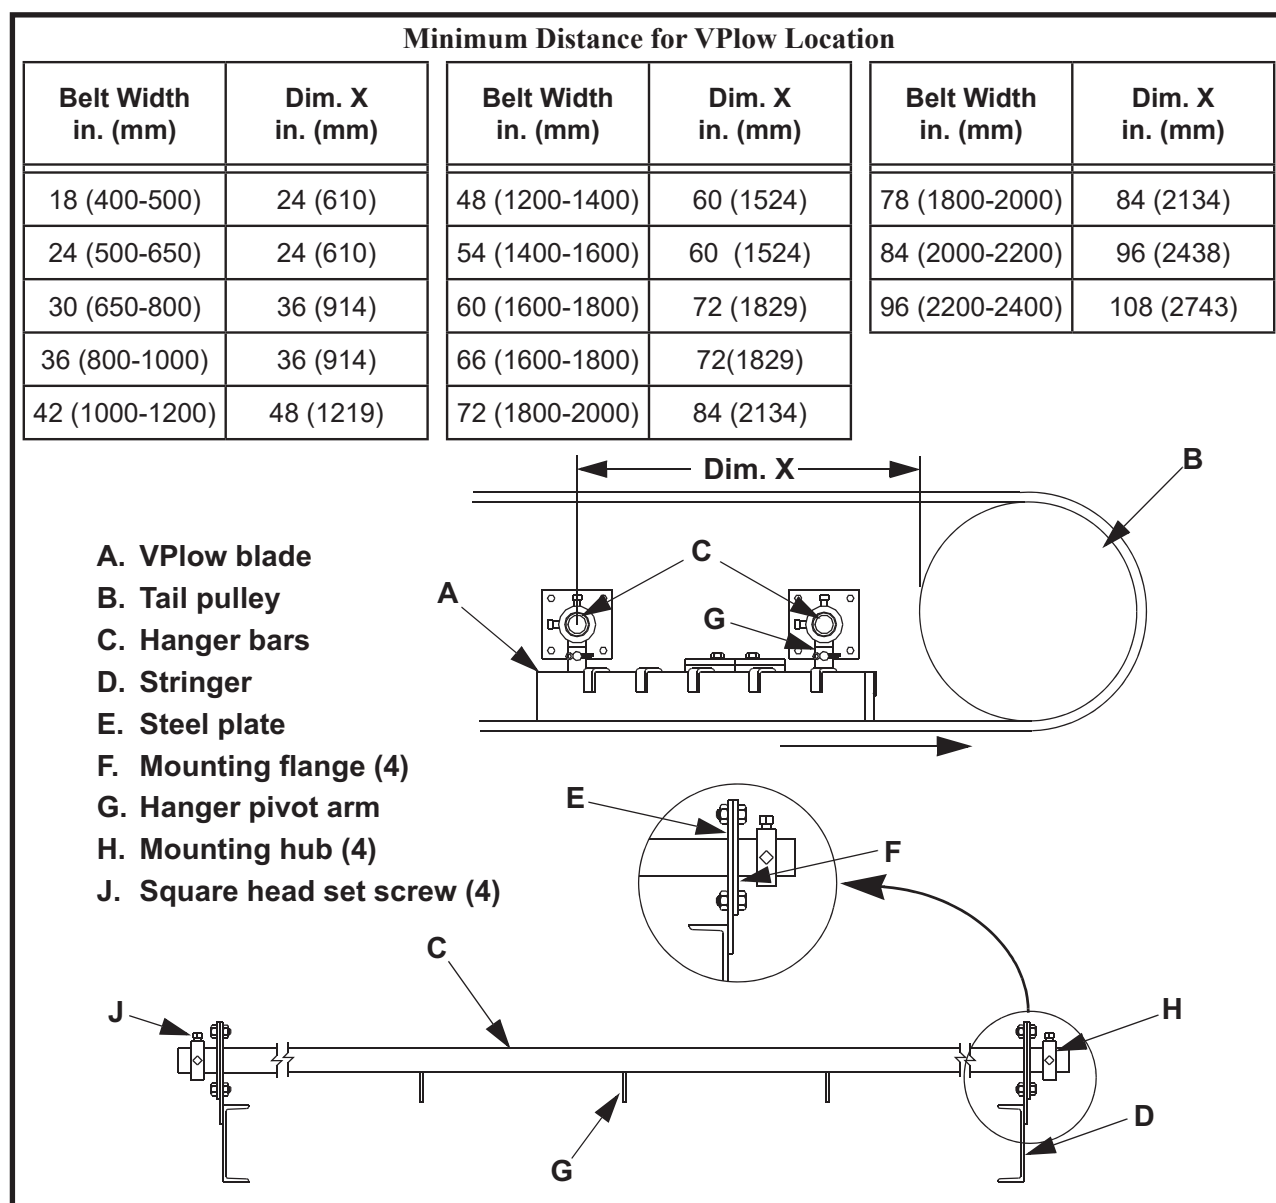
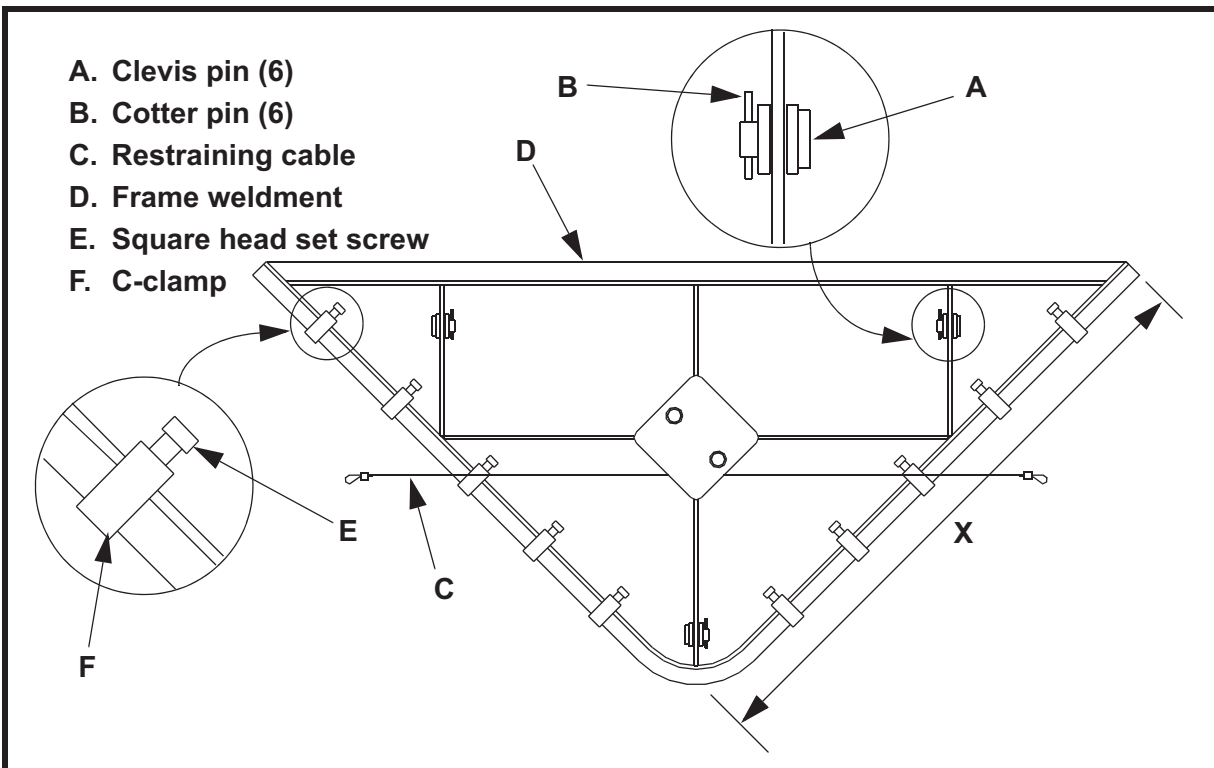

Figure 1. Locating Martin® VPlow HD on belt
Figure 4. Installing Martin® VPlow HD
Position vplow blade according to chart in Figure 1. Minimum distance is to ensure safety cables will keep vplow from damaging tail pulley or conveyor belt if mount brackets fail.
1. Place the Martin® VPlow HD blade (A, Figure 1) on the return side of the belt before the tail pulley (B), with the “V” pointing away from the tail pulley. Position according to chart in Figure 1.
6. Insert the hanger bars (C, Figure 1) through the mounting holes. Attach each hanger pivot arm (G) to the hanger bar with a clevis pin (A, Figure 4) and cotter pin (B).
7. Center the blade on the belt. Slide a mounting hub (H, Figure 1) onto both ends of each hanger bar, and up against the mounting flanges. Tighten the two set screws (J) in each mounting hub.
8. Attach a restraining cable (C, Figure 4) to the conveyor stringers far enough from the tail pulley. Make sure vplow is located according to chart in Figure 1. Leave no more than 2 in. (51 mm) of slack in cable.
3. Check the cleaning for wear. If it is worn almost to the frame weldment (D, Figure 4), replace as follows:
- a. Remove the square head set screws (E) and C-clamps (F) holding the cleaning edge against the frame weldment.